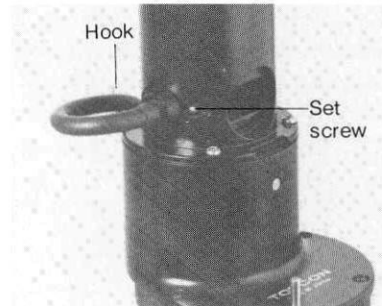

Fig. 64
- (b) Loosen the setscrew on the side of the relay lens section and detach the plug. (See Fig. 64)
Hook the optical fiber light guide on its hook, to keep it from dangling. (Fig. 64)